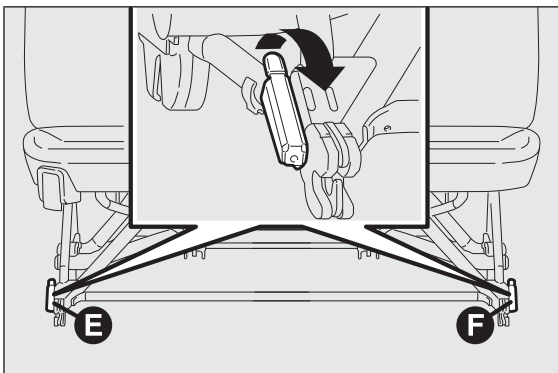

fig. 38
- from the upright position, operate levers E and F fig. 38 rotating them upwards;